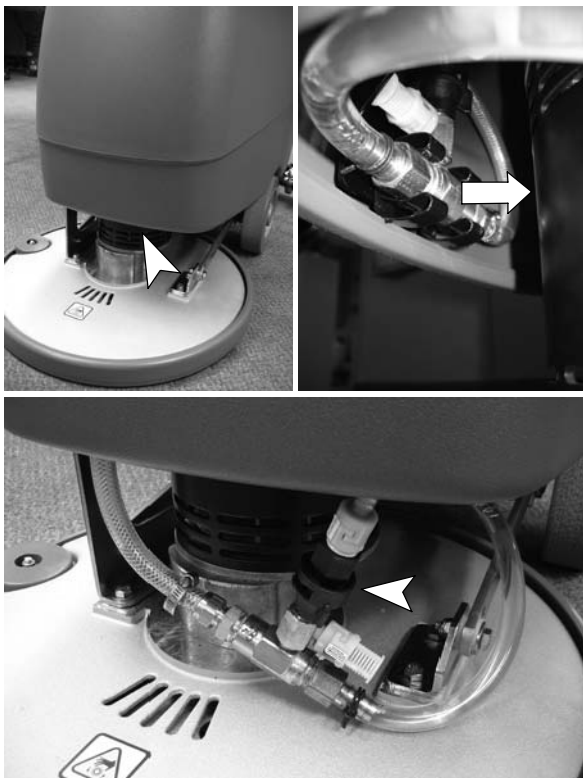

FIG. 50
1. To access the orifice plate and filter, lower the scrub head. Remove the injector assembly from the clamps located behind the front edge of the machine (Figure 50).